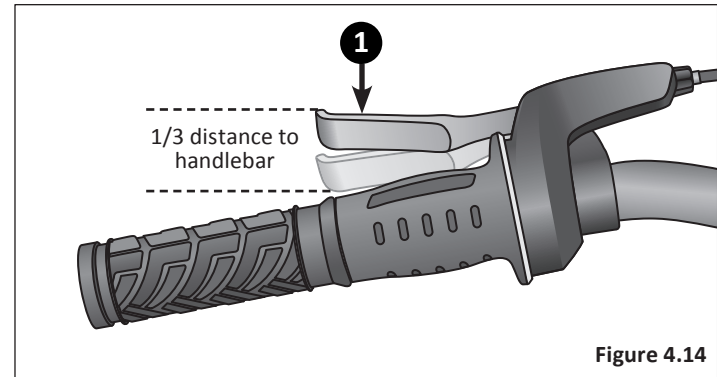

Figure 4.14
- 1 After adjusting the brake, squeeze the brake lever as hard as you can several times and re-inspect the brake pads, centering and brake lever travel. If the brake pads are no longer square to the rim, repeat brake pad adjustments. **Figure 4.14**